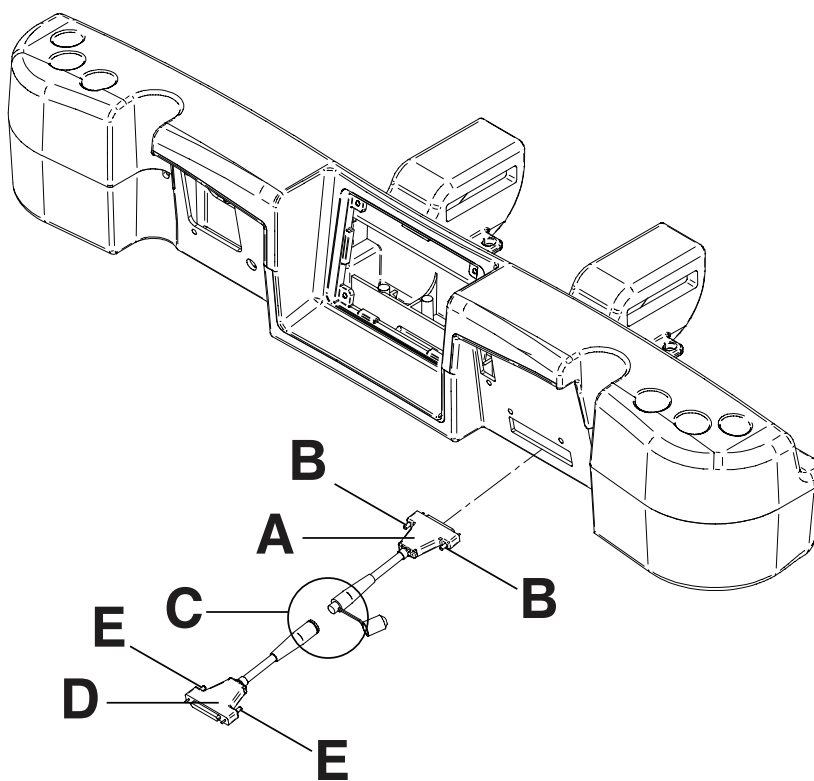

Figure 136: Wall saver connections
1. Insert the pin end of the first connector (A) into the head end of the product (Figure 136 on page 115).
2. Screw the connector fasteners (B) in to secure the connector to the product (Figure 136 on page 115).
3. Connect the back end of the second connector into the back end of the first connector (C) (Figure 136 on page 115).
4. Insert the pin end of the second connector (D) into the wall (Figure 136 on page 115).
5. Screw the connector fasteners (E) in to secure the connector to the wall (Figure 136 on page 115).